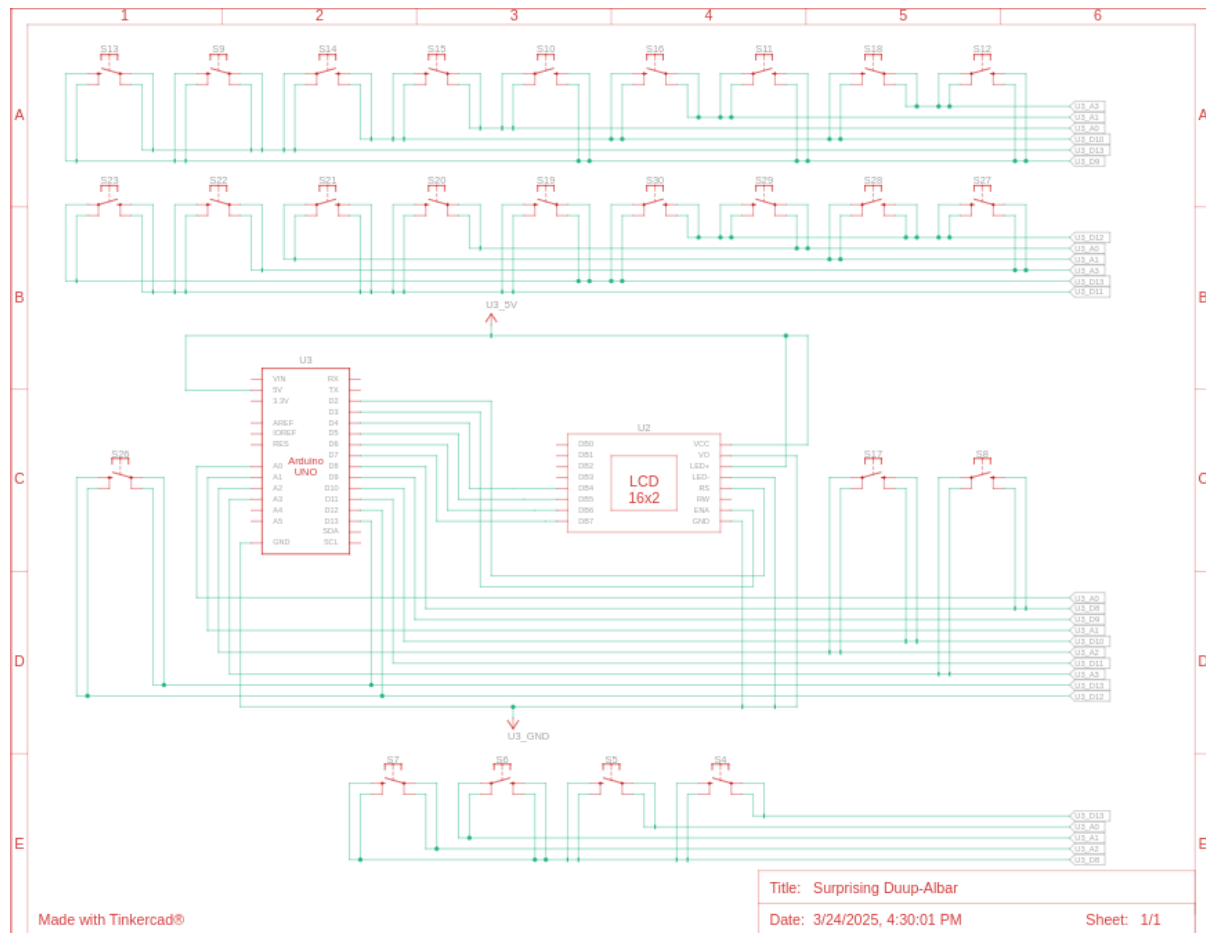

Figure 1: Schematic of Circuit.
- Connections between the button matrix, LCD, and Arduino Uno as shown in Figure 1.